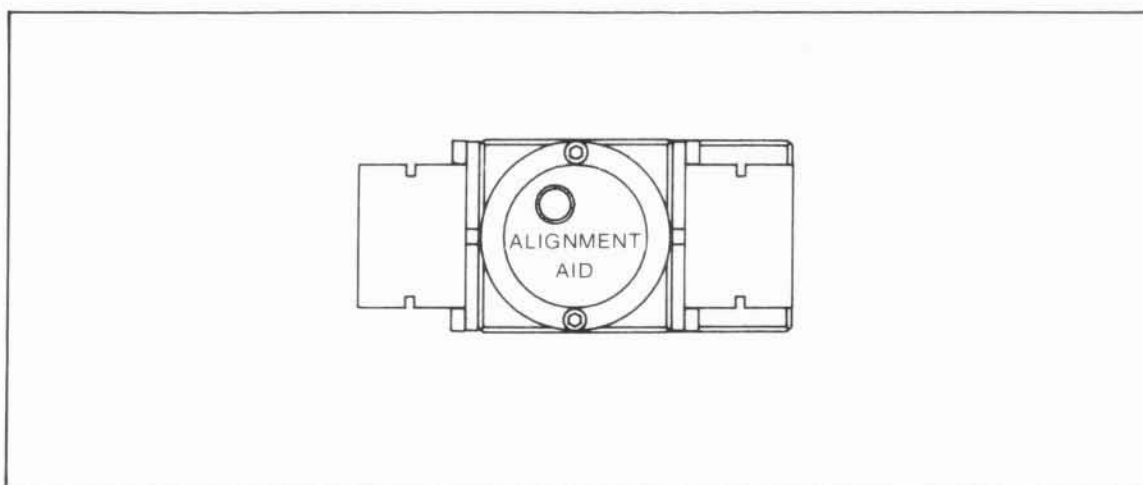

Figure 6-40. Alignment Aid Attached Over Reference Beam
- l. Replace the alignment aid over the output aperture of the Differential Interferometer such that the beam going to the reference mirror, (Reference beam) passes through the alignment aid. (See Figure 6-40.)